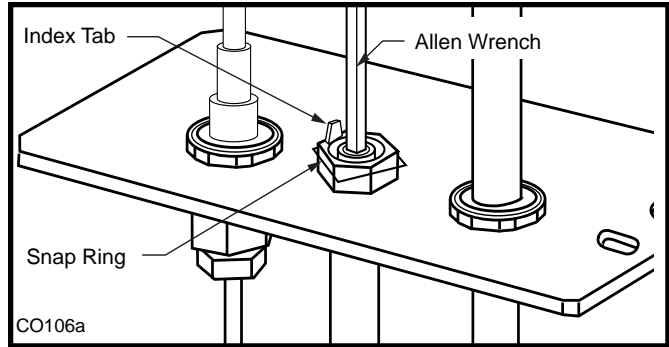

Fig. 72 Remove pilot orifice.
- Remove pilot orifice with allen wrench. (Fig. 72)